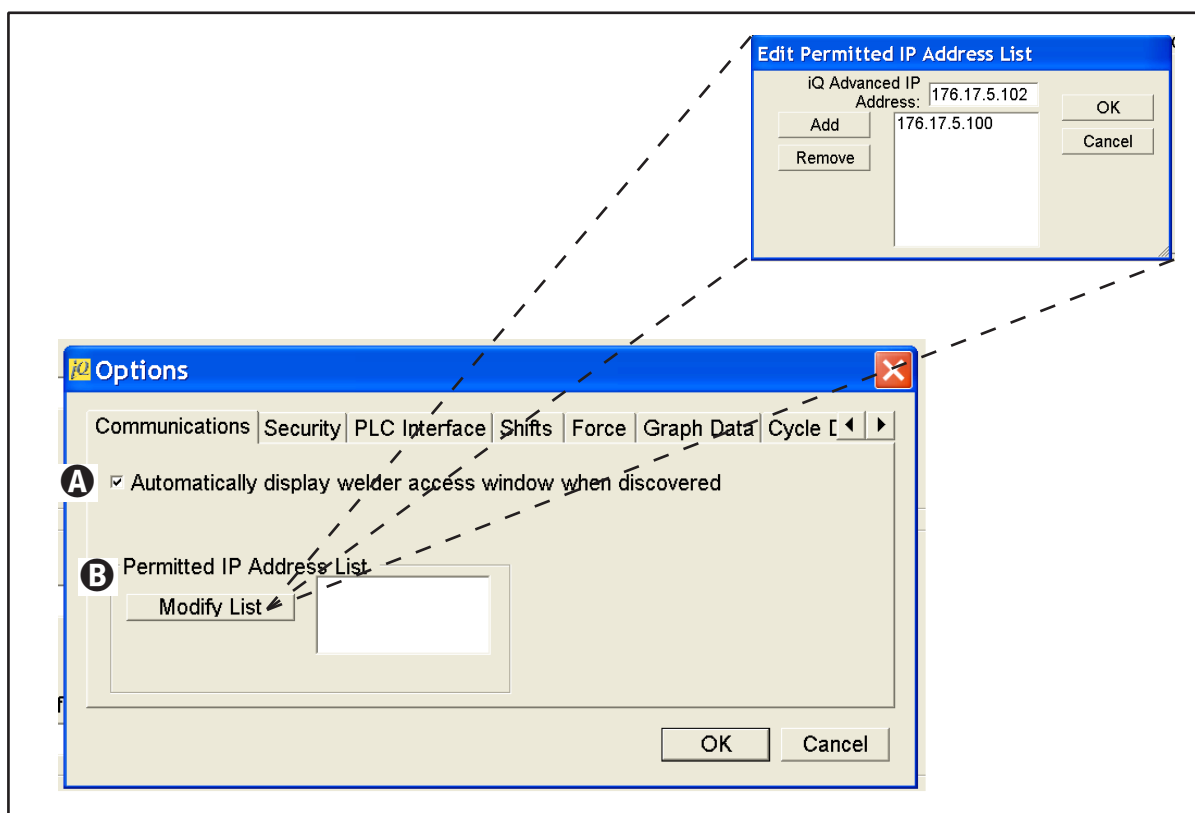

Figure 5-8 Options - Modify Permitted IP Address List
On *iQ Explorer II* click on the Options button, and look at the Communications tab. At the bottom of the tab there is a section labeled Permitted IP Address List. Press the Modify List and add 169.254.0.2 to the list. Press OK to exit both windows. See Figure 5-8.
3. See Figure 5-8 for a view of this tab.